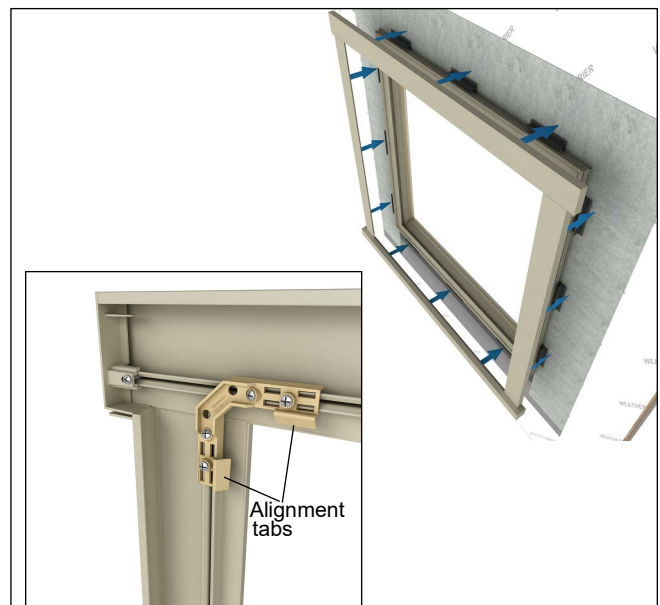

Figure 48
- Press casing assembly onto connection bars by lining up all corners with the corner key alignment tabs. Press firmly (20-40 pounds of pressure) around the entire casing assembly until it is seated fully over frame. **Do not use excessive force, mallets, hammers, etc.** See *figure 48*.